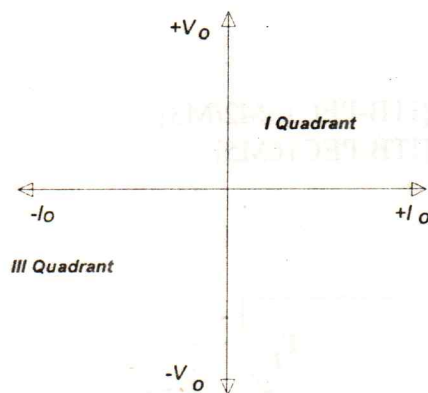

Fig.E.4.3 Quadrant of operation of chopper.
- Repeat the experiment for continuous current mode. The voltage and current waveforms for continuous current will be as shown in Fig.E.4.3. Adjust the duty cycle ratio and Load inductance so that the current is continuous as shown in fig.E.4.3.